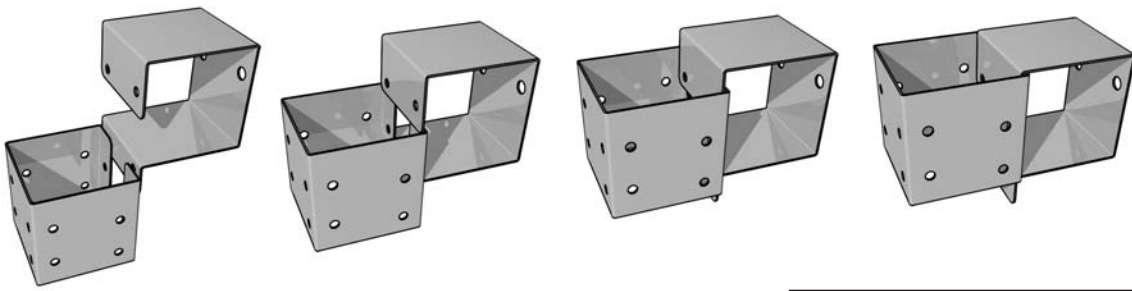
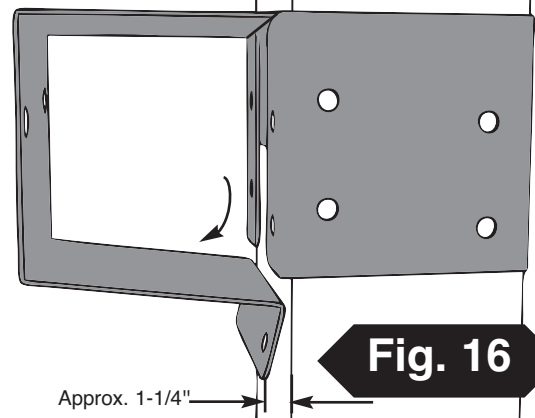

Fig. 15
Fig. 16
1. Secure Shelf-Loc brackets onto Wrap-Loc as show in (Fig. 15), (Fig. 15a), (Fig. 16).